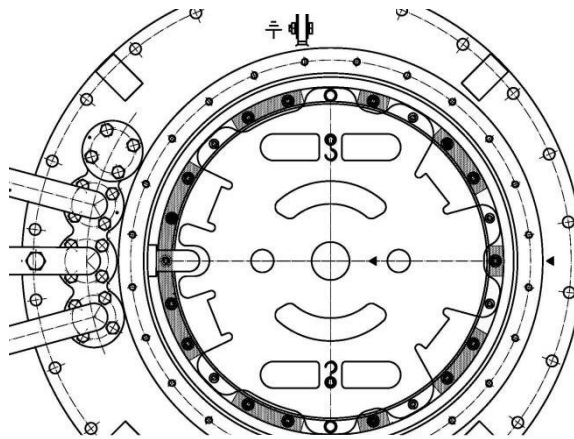
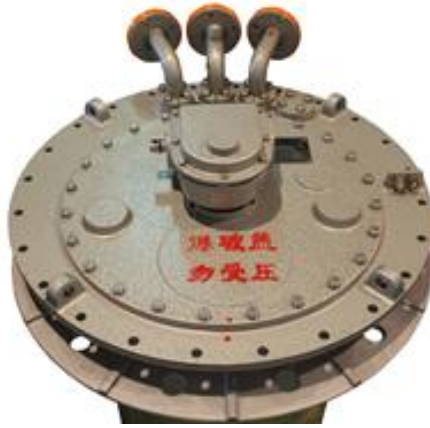

Figure 26
Figure 27
(9) Install the diverter switch core
- c. The ▲ mark on the diverter switch core support plate and the mark (red triangle) of tap changer head (Fig. 26) must be aligned with each other.
(10) Put the switch head cover and cover the tap changer. The O-ring on the head cap must be placed in the correct position.
(11) Evenly tighten the 24 M12 bolts on the cover of the tap-changer with a tightening torque of 34 Nm (Fig. 27).